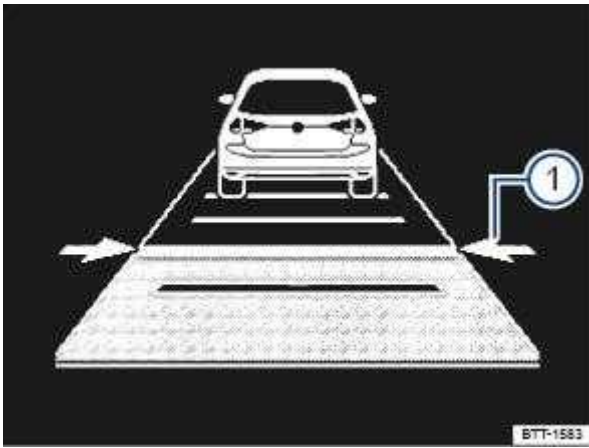

Fig. 122 On the instrument cluster display: setting the distance (illustration, ACC regulating).
The instrument cluster display shows the chosen distance setting ⇒ Fig. 122 ① . Please observe any country-specific requirements for the minimum distance.